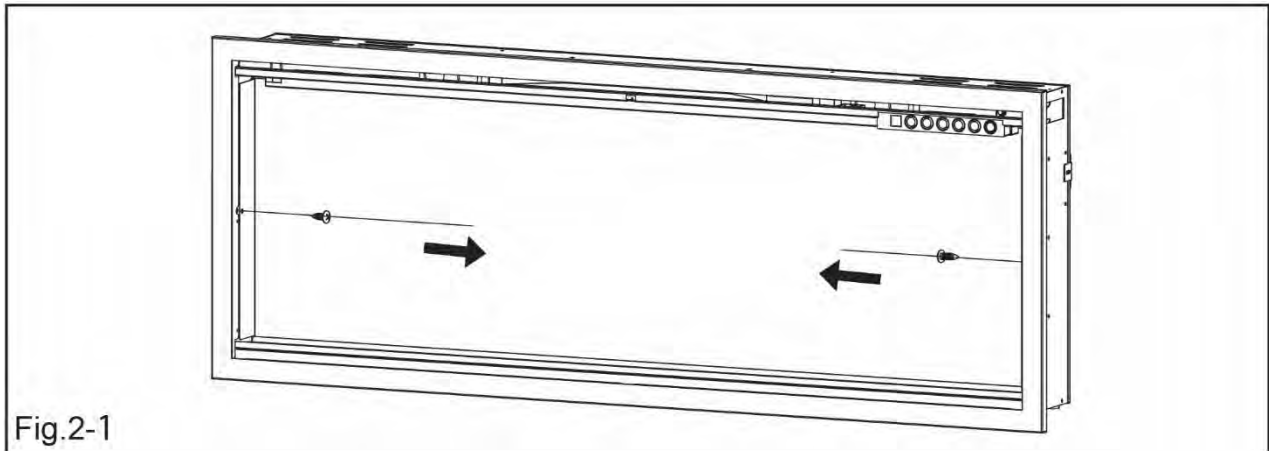

Fig.2-1
- Remove the two screws (one per side) from the inside of the appliance and remove the interior walls. (Fig.2-1). Set the screws/walls aside.